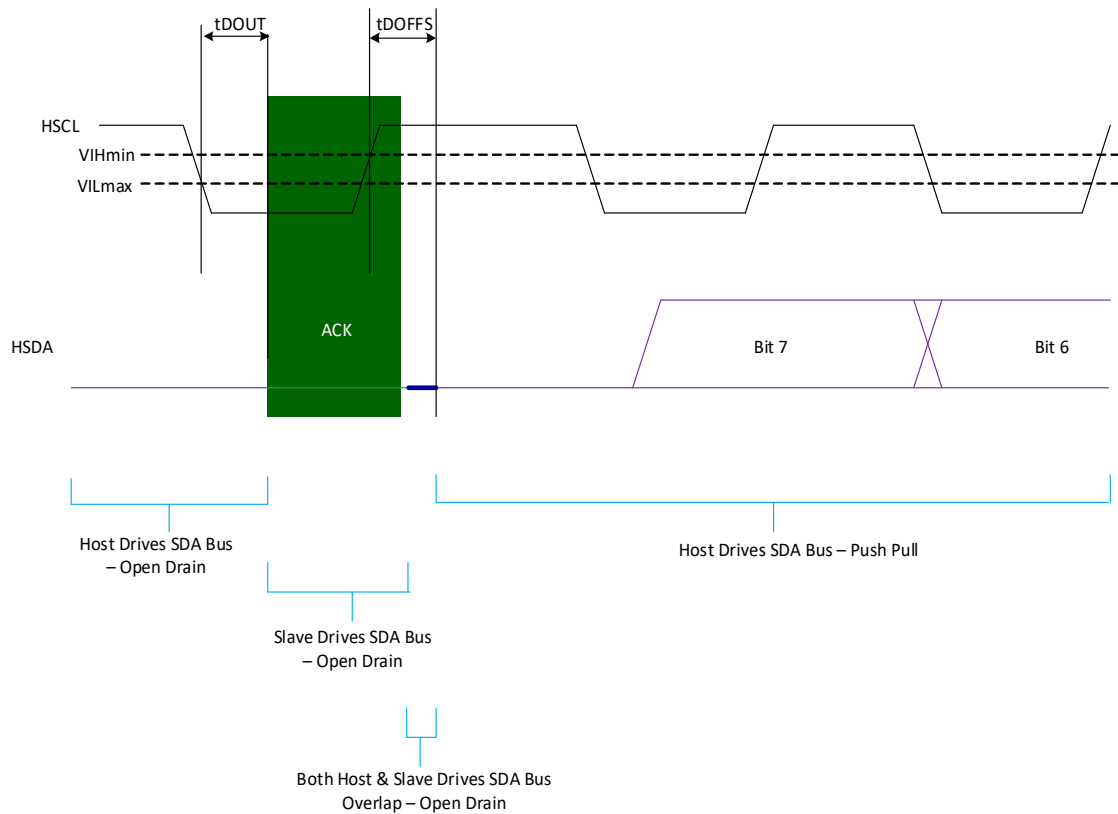

Figure 13. Slave Open Drain to Host Push Pull Hand Off Operation
- Figure 13 shows how the transition occurs from Slave Open Drain (ACK) to Host Push Pull Operation (1st bit of Addr, bit [7]).
- Figure 13 shows how the transition occurs from Slave Open Drain (ACK) to Host Push Pull Operation (1st bit of Data).